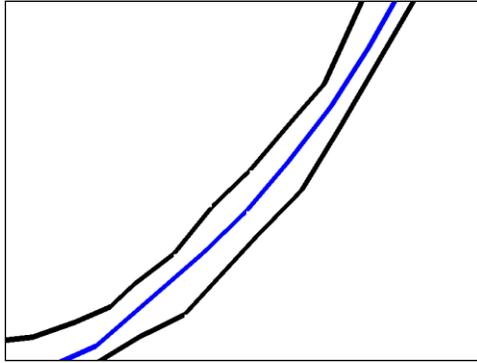

Figure 1 Centerline and bank arcs
2. **Zoom** in close enough around any section of the feature arcs to see three distinct arcs as shown in Figure 1.